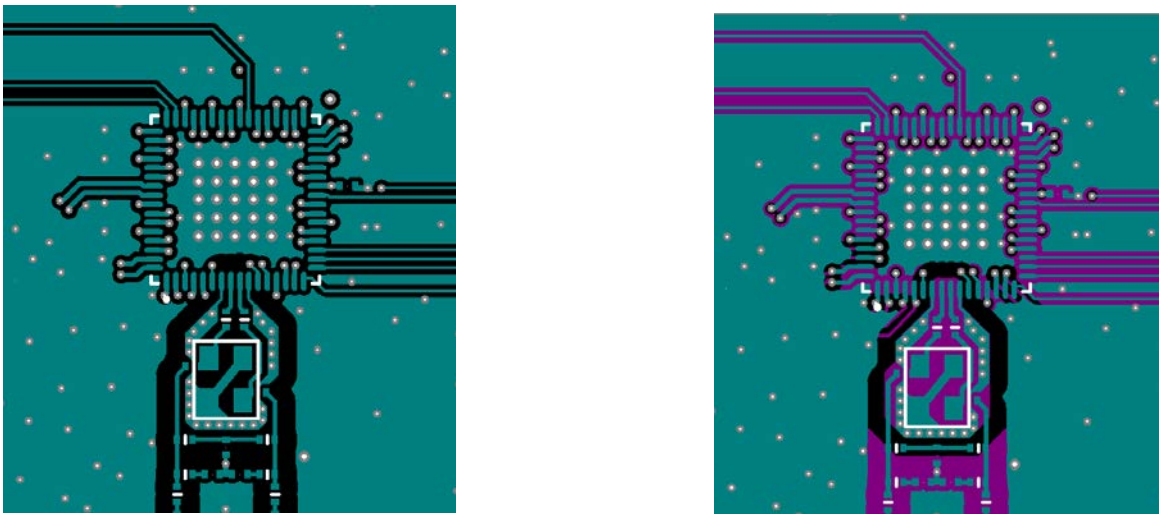
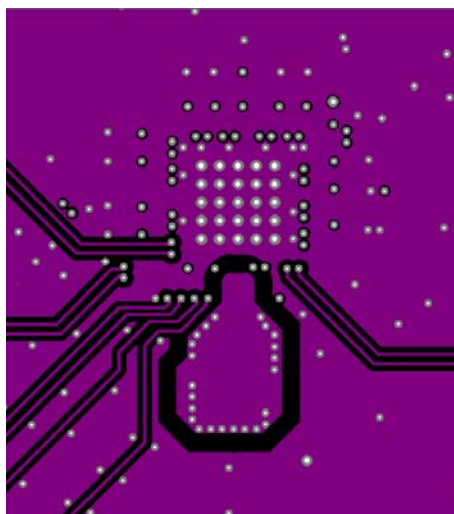

Figure 36. 64-pin Si5347 Crystal Layout Recommendations Top Layer (Layer 1)
Figure 37. Zoom View Crystal Shield Layer, Below the Top Layer (Layer 2)
Figure 36 shows the top layer layout of the Si5347 device mounted on the top PCB layer. This particular layout was designed to implement either a crystal or an external oscillator as the XAXB reference. The crystal/ oscillator area is outlined with the white box around it. In this case, the top layer is flooded with ground. Note that this layout has a resistor in series with each pin of the crystal. In typical applications, these resistors should be removed.
3. Connect the crystal's GND pins to the DUT's X1 and X2 pins via a local crystal shield placed around and under the crystal. See Figure 36 at the bottom left for an illustration of how to create a crystal shield by placing vias connecting the top layer traces to the shield layer underneath. Note the zoom view of the crystal shield layer on the next layer down is shown in Figure 37.
Figure 37 shows the layer that implements the shield underneath the crystal. The shield extends underneath the entire crystal and the X1 and X2 pins. This layer also has the clock input pins. The clock input pins go to layer 2 using vias to avoid crosstalk. As soon as the clock inputs are on layer 2 they have a ground shield above below and on the sides for protection.